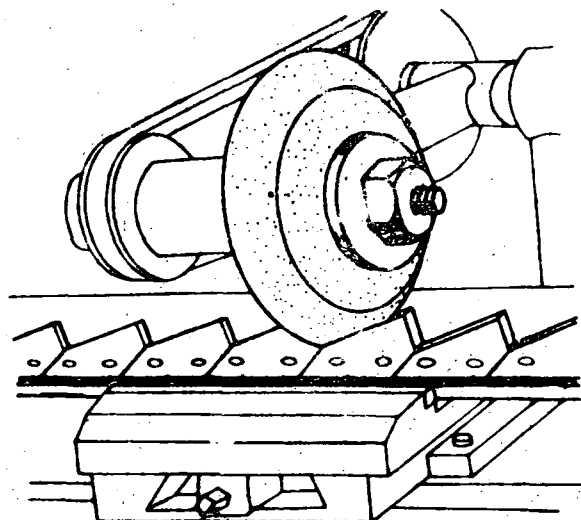

Fig. 1
- Make the union of the sections coincide with the vertex of the grindstone (Fig. 1).